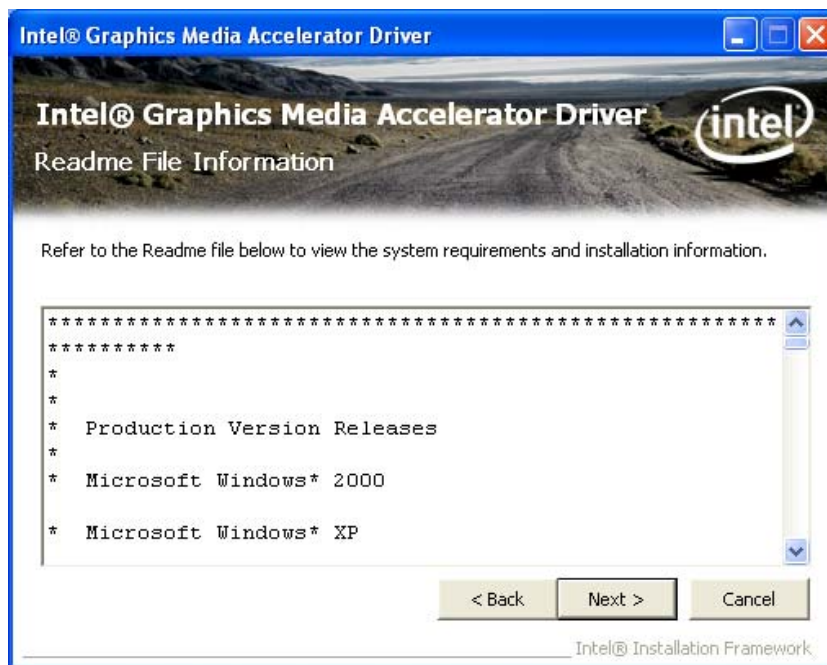

Figure 6-14: VGA Driver Read Me File
Step 11: The Read Me file in **Figure 6-14** appears.